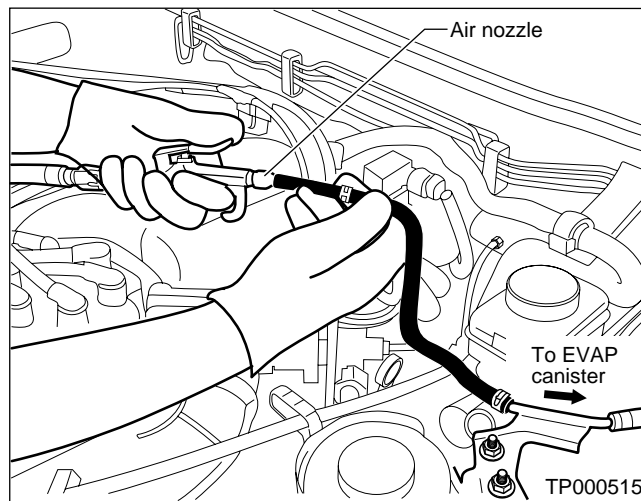

Figure 5
A. Working at the front of the vehicle, blow air through the hose (disconnected in step 3) that leads to the EVAP canister (see Figure 5).